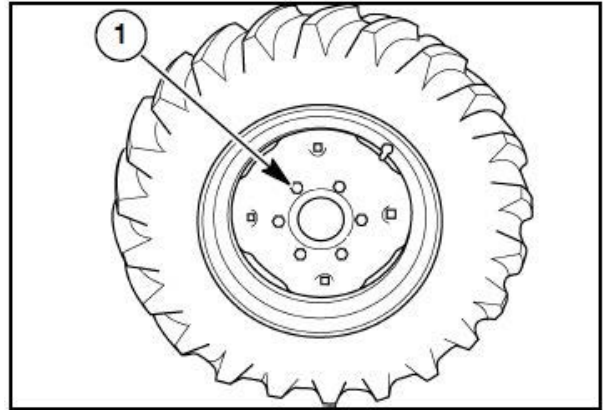

Figure 3-44
Tighten the wheel bolts (1) in Figure 3-44, to the specified torque any time the wheel assembly is removed from the tractor or the wheel bolts are loosened.